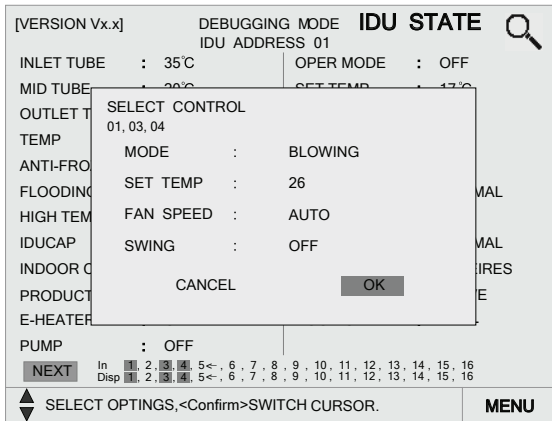

Fig.4-5 SELECT CONTROL Page
**Step 3:** After selection, press **Confirm** button to enter the **SELECT CONTROL** page (Fig.4-5). Then, repress the Confirm button which the cursor is defaulted to indicate to execute the SELECT CONTROL.